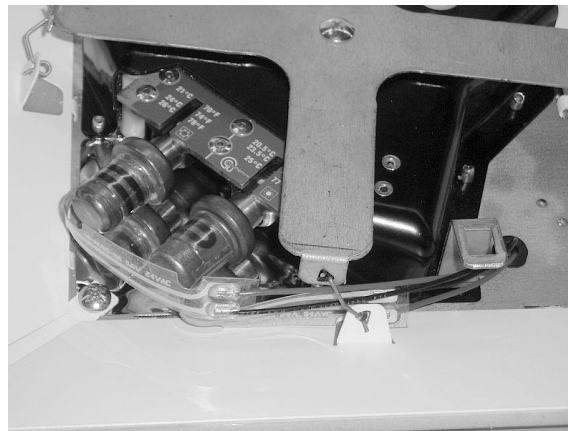

Fig. 5
15. Carefully position the shrink band such that the wires come from the left of the cooling thermostat and the right of the heating thermostat (see Fig. 5).
17. Rout the wires behind the spoke connected to the damper, through the grommet in the diffusion plate, through the 5/16" hole in the housing and into the terminal box (see Fig. 5).